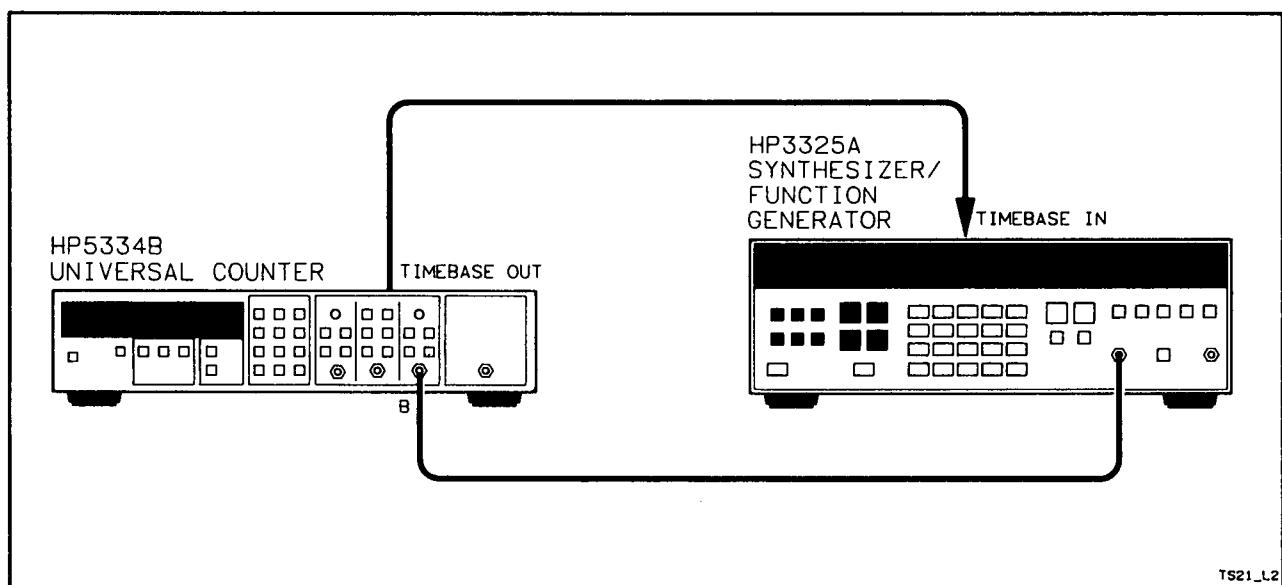

Figure 5-7. Channel B Sensitivity Adjust Setup
4. Connect the function generator signal to the 5334B Input B. Connect Time Base as shown in *Figure 5-7*.